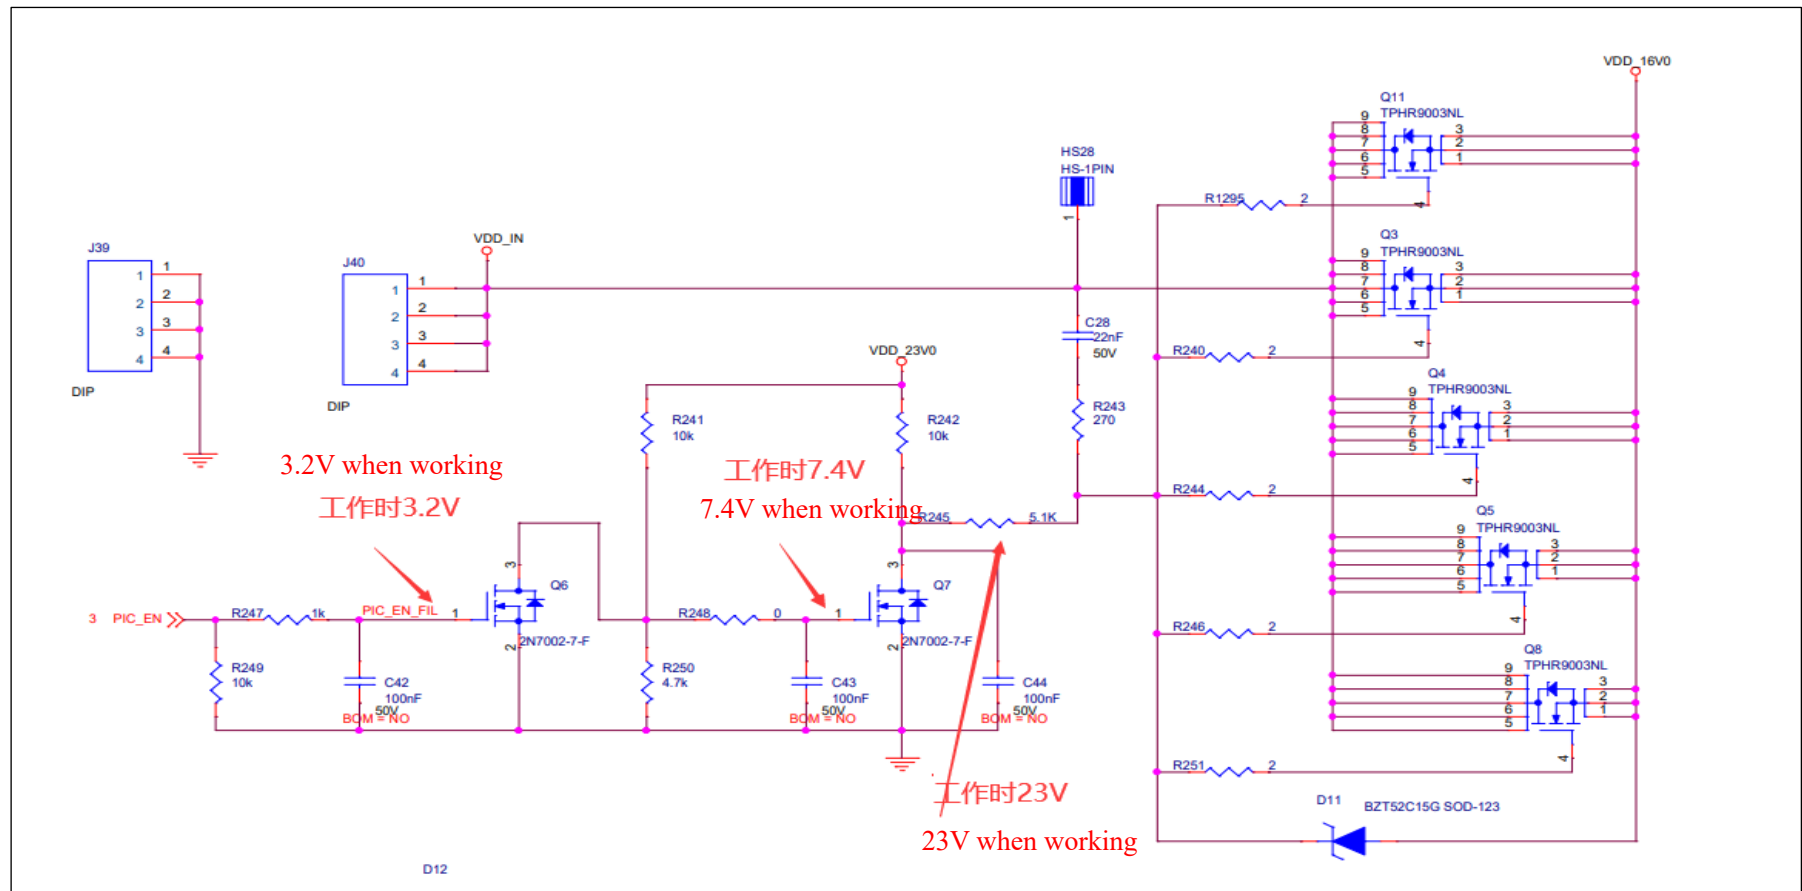

Figure 5-1
Step 1: check the output of the power supply. Please check the part of the voltage circled in Figure 5-1.